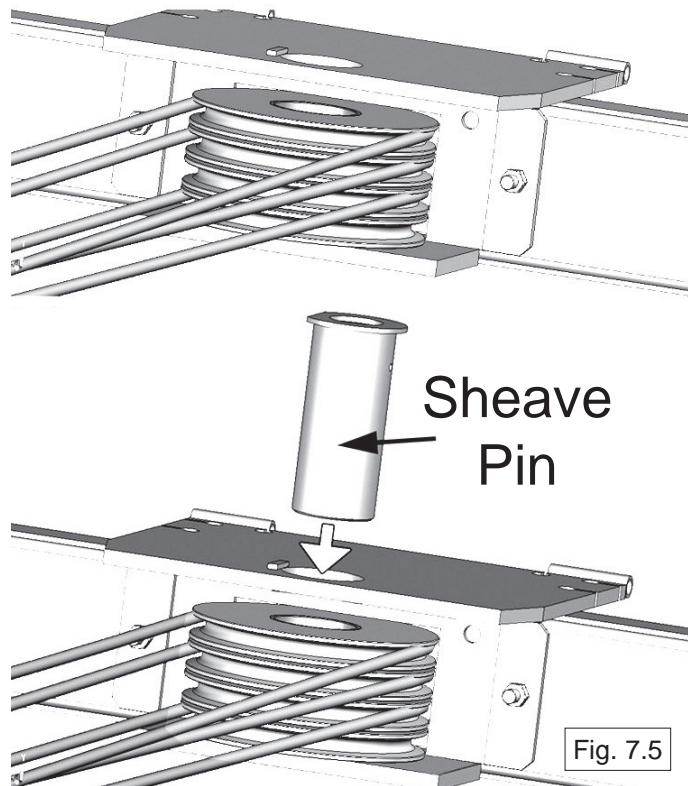

Fig. 7.5
4. With the CABLES properly routed, hold the Sheaves in position and install the SHEAVE PIN. (See Fig. 7.5)